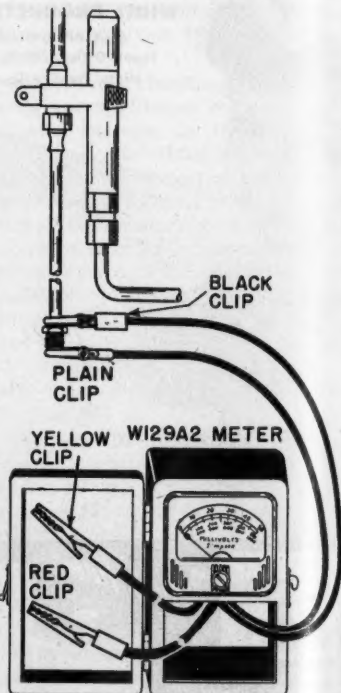

Fig. 11 — Millivolt Meter should be attached to the couple as illustrated; flame applied to the hot junction located at the tip of thermocouple.
6. For investigation of pilot performance, a millivoltmeter is useful to obtain the exact voltage generated to indicate whether the proper voltage is supplied to the electro-magnet of the pilotstat. The millivoltmeter leads are connected to the thermocouple as shown (Fig. 11).